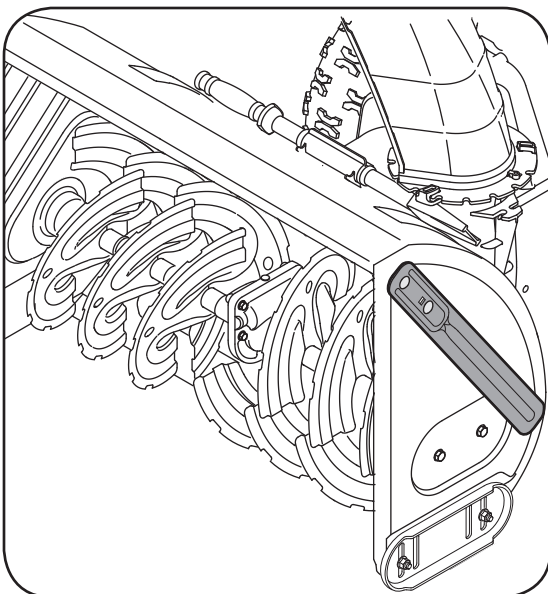

Figure 7
- The drift cutters are assembled to the auger housing inverted. See Figure 7.